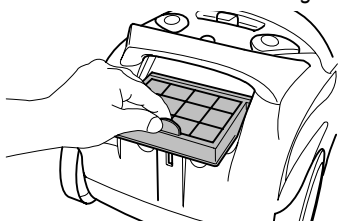

Fig.27
3. Remove the blow-out filter at the grip-tongue provided for this purpose (Fig. 27).